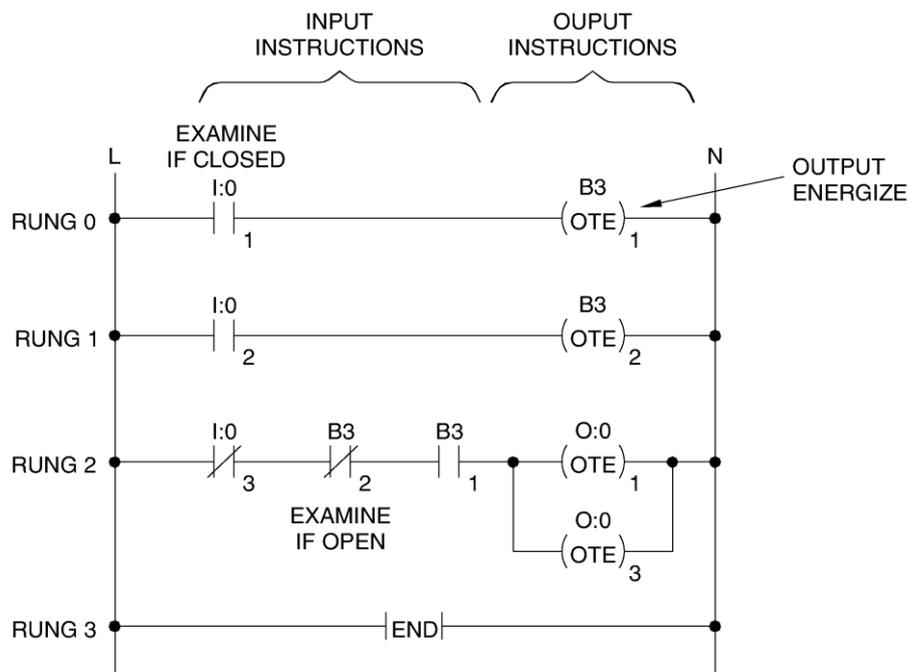

Fig 5. PLC ladder program
Figure 5 shows a PLC ladder program. A PLC ladder program is a planned set of instructions resembling a hardwired ladder diagram. It consists of a line (L) power rail and a neutral (N) power rail between which one or more rungs are inserted.
Each individual rung contains one or more input instructions on its left-hand (L power rail) side, and a single output instruction or several output instructions placed in parallel on its right-hand (N power rail) side. In Figure 5, for example, the instructions Examine If Closed (XIC) and Examine If Open (XIO) are input instructions analogous to relay contacts. On the other hand, the instruction Output Energize (OTE) is an output instruction analogous to a relay coil.